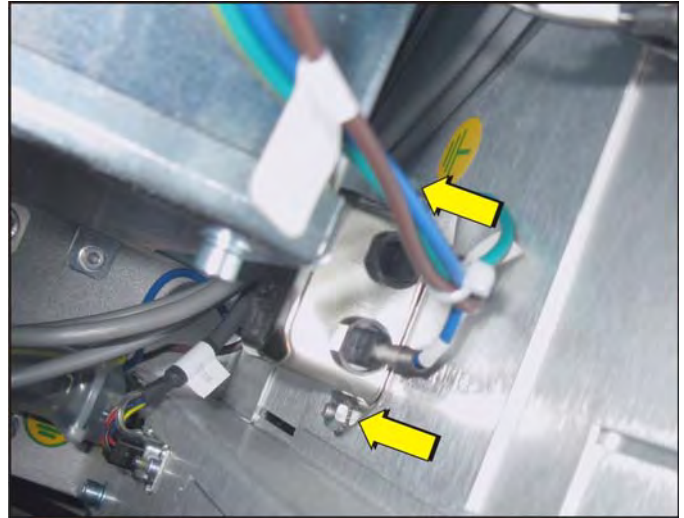

Figure 5-46 Remove AC Line Filter
5. Remove the two hex nuts from the bracket the AC line filter is secured to, which is secured to the firewall. (**Figure 5-46**)